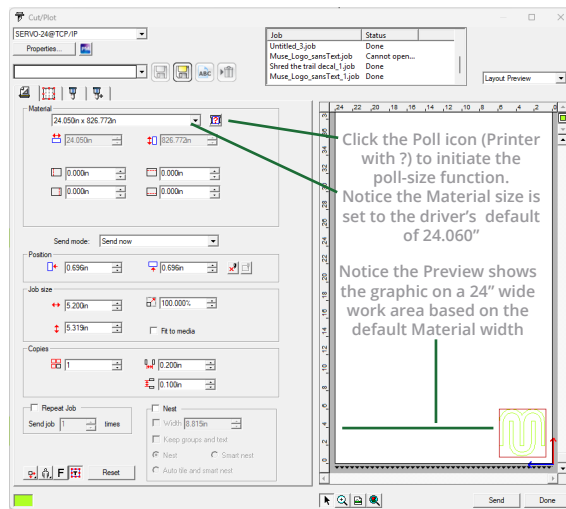

Fig. 2.8.3
- From the Cut-Plot window, click the Poll icon in the upper right area of the preview screen (Fig 2.8.3)